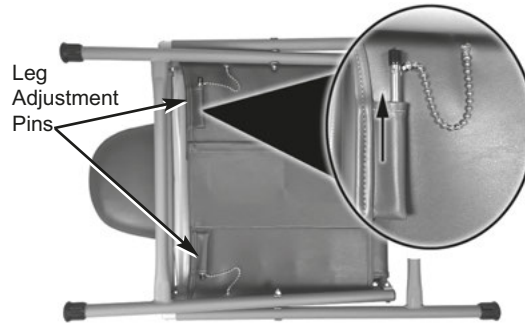

Figure 1 - Leg Adjustment Pin Location
2. Rotate the chair up onto one side and remove the leg adjustment pins from their storage pouch underneath the chair seat. (Fig. 1)
1. Seat Height- The ADC-01 chair seat height can be set at any of the five preset settings. Without a patient in the chair, put your toe on one of the front chair legs and lift up slightly on the chair seat. While lifting and holding seat, remove the leg adjustment pin from the right and left side. Align link with tube hole in any of the five positions and lock in place by inserting the pin and chain assembly. (see Fig. 1)